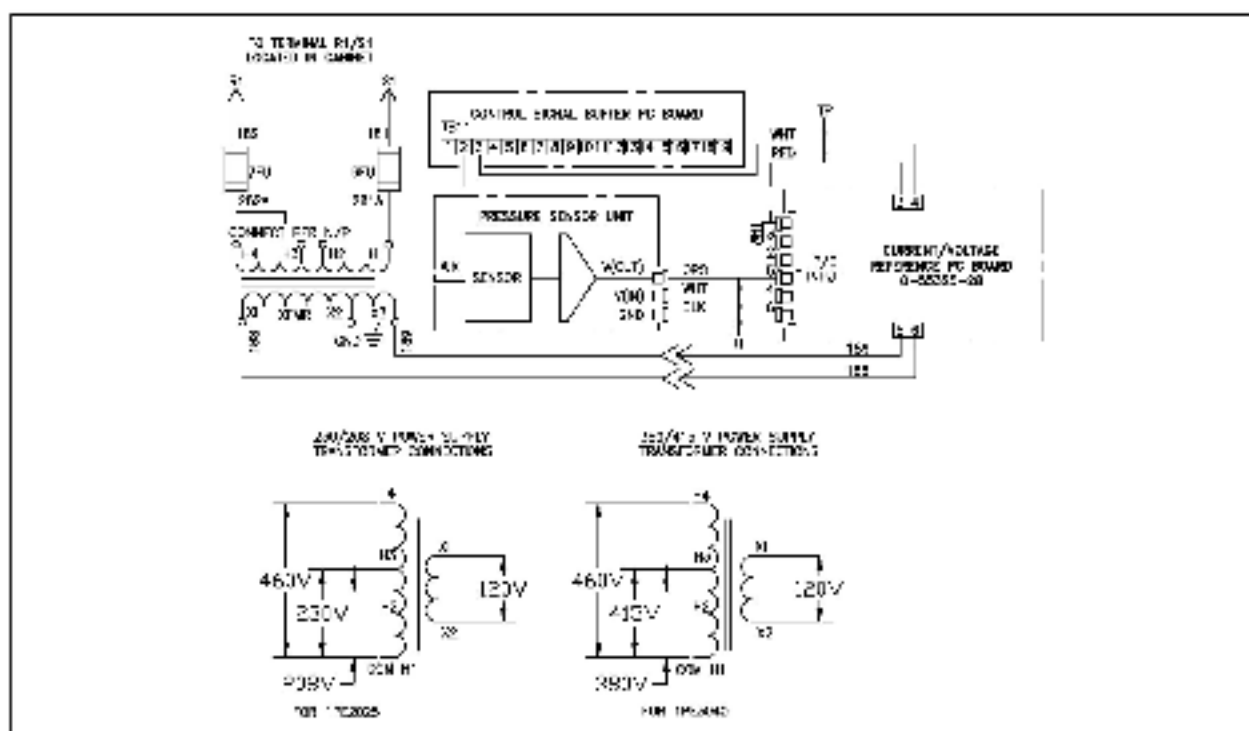

Figure 5. Pressure-to-Electrical Transducer Connection Diagram (Cabinet Mounting, without Bypass).
5. Using wire harness 808813-112X connect from terminals 3 and 4 on the Current/Voltage Reference Isolator PC Board to TB11 terminals 2 and 3 on the Control Signal Buffer PC Board. Refer to Figure 5 for wiring detail.
6. Using wire harness 808813-112V connect from terminals 5 and 6 on the Current/Voltage Reference Isolator PC Board. Connect harness 808813-112W to terminals 188 (X1) and 189 (X3) on the transformer. Plug the two harnesses together. Refer to Figure 5 for wiring detail.
7. Using wire harness 708205-50R connect from terminals H1 and H2, H3, or H4 (per nameplate specifications) to one end of the fuse block. Refer to Figure 5 for wiring detail.
8. Using wire harness 708205-50S connect from terminals R1 and S1 located on the terminal board, to the other end of the fuse block. Refer to Figure 5 for wiring detail.
9. Using the wire harness supplied with the pressure sensor unit (transducer assembly), connect from the Current/Voltage Reference Isolator PC Board to the Pressure Sensor Unit. Refer to Figure 5 for wiring detail.
10. Connect ground jumper 708205-53D from transformer terminal 189 (X3) to an appropriate grounding location. Refer to Figure 5 for wiring detail.
1. With power OFF, connect a voltmeter on a 12 VDC or greater scale to terminals 3 (+) and 4 (COM) on the Current/Voltage Reference Isolator PC Board. Refer to Figure 5 for wiring detail.